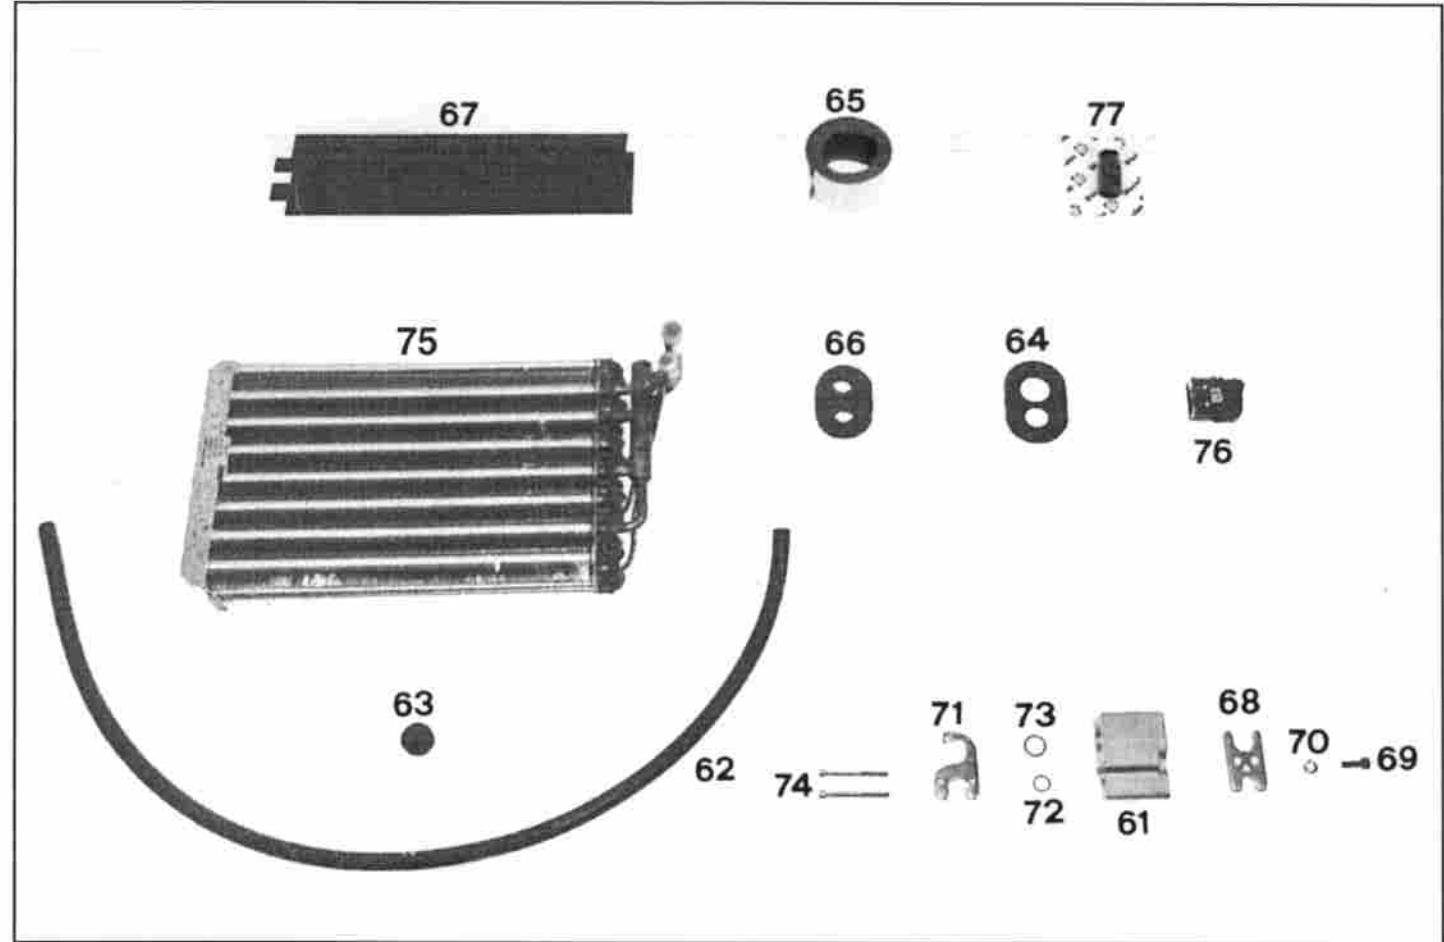

FIG. 3
**ELENCO MATERIALE FORNITO (FIG. 3)**
**LISTE DU MATERIEL FOURNI (FIG. 3) / LIST OF SUPPLIED MATERIALS (FIG. 3)**
**VERZEICHNIS DES GELIEFERTEN MATERIALS (ABB. 3) / LISTA MATERIAL ABASTECIDO (FIG. 3)**